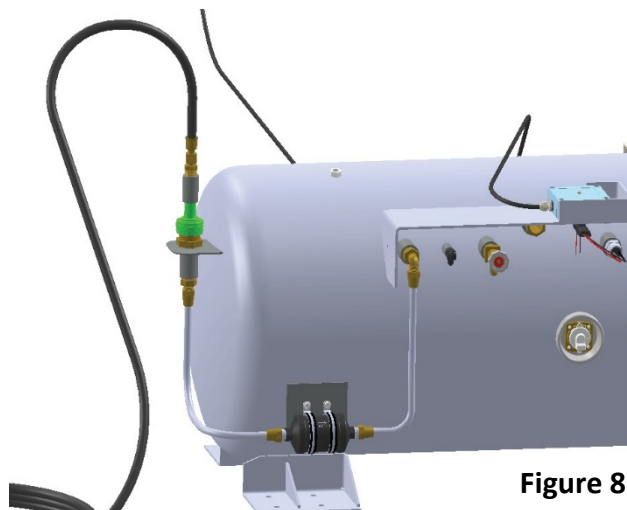

Figure 8
- 7) Connect tank evacuation adapter to liquid fuel evacuation tank's filler valve. **Torque: Fully Seated Not Stripped, Not Leaking Figure 8**
- 8) Utilizing a lit propane “plumbing” style torch. Place the torch above the evacuation flare stack collar as shown in **Figure 8**, Slowly open the ball valve until the evacuation stack is lit. Then slowly open all the way making sure to be careful not to blow the flame out with the rushing fuel. If the flame blows out start over from **step 6** allowing a minute for the fuel to disperse before relighting.
- 8) Turn the evacuation tank controller switch to the **ON** position to start the transfer process. **Figure 8**